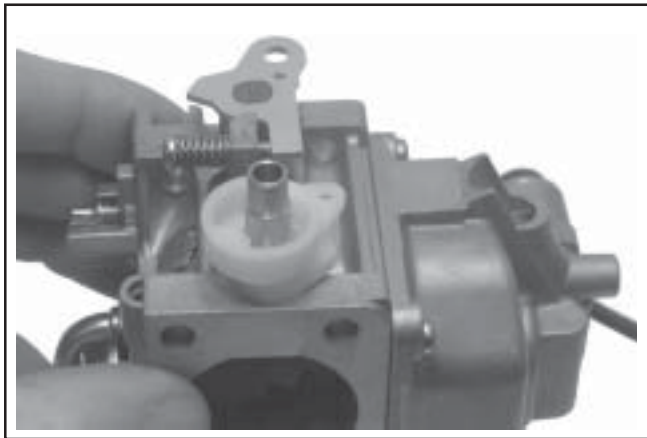

Figure 5-62. Installing Bushing.
8. Turn the old bushing upside down and use it as a driver to carefully press or tap the new bushing into the carburetor body until it bottoms. Check that the choke lever pivots freely without restriction or binding. See Figure 5-62.